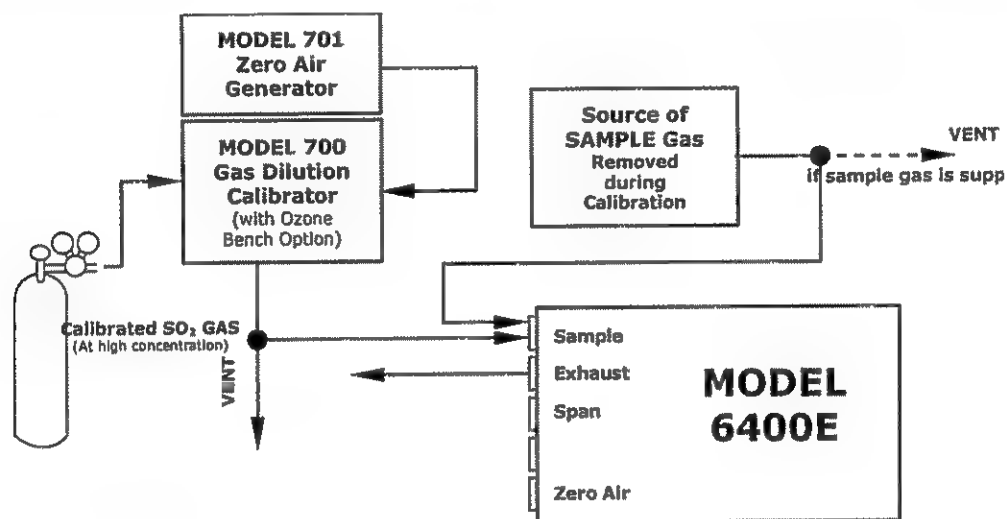

Figure 3-6: Pneumatic Connections--Basic Configuration--Using Gas Dilution Calibrator
3. Attach zero air and span gas supply lines as appropriate (see Figures 3-6, 3-7 & 3.8). For this type of analyzer, zero air and span gas are defined in Section 3.1.2.1.